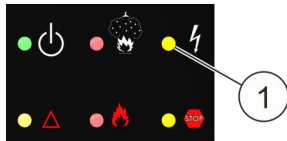

Fig. 21: LED "Failure"
8. ▶ Check whether the LED "Failure" (Fig. 21 /1) lights up and whether the message „Failure extinguishing output” is shown in the display.